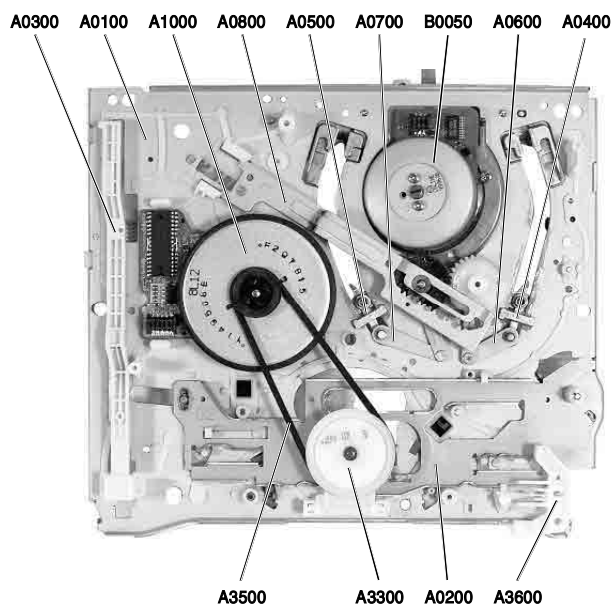

Fig. 2
- Remove the drive belt (Pos. A3500, Fig. 2).